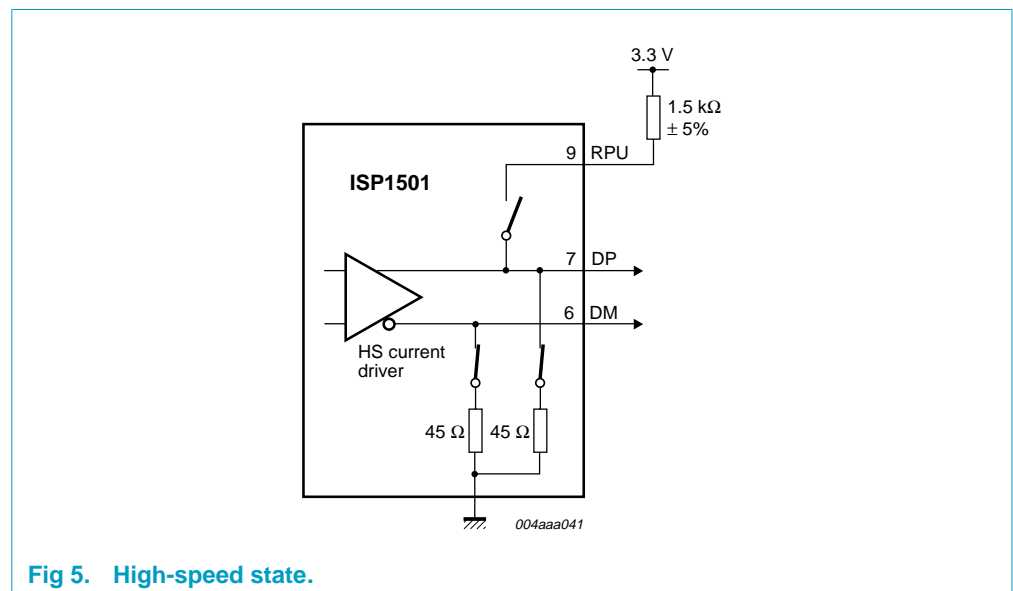

Fig 5. High-speed state.
8.2.3 High-speed (HS) state
In the high-speed (HS) state, internal $45 \text{ }\Omega$ resistors on the DP and DM lines are connected to the ground. The pull-up resistor is disconnected. The HS transceiver is enabled, and the parallel interface and the HS-handshake signals are used (see Figure 5).